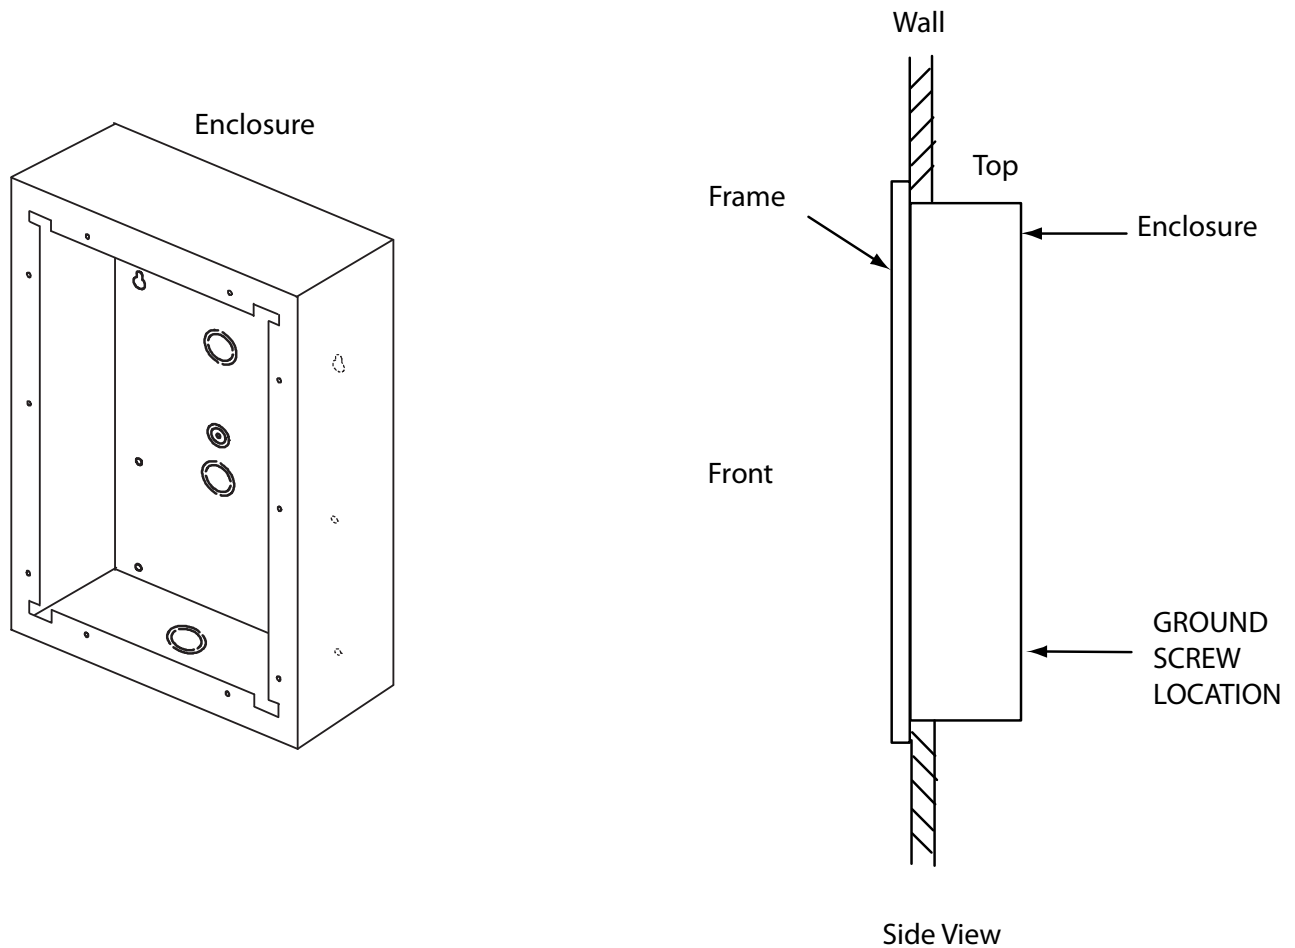

Figure 7. Flush Mount Enclosure
The flush mount enclosure mounts directly inside the wall to the wall stud or supporting structure as shown in Figure 7. Mount the enclosure flush with the wall and right-side up (the knock out is at the bottom).
4. Insert the enclosure into the wall cutout and using the side of the enclosure as a template mark the side mounting hole location as shown in the side view in Figure 7. Ensure that at least one side is beside a wall stud.
9. Insert the Touch Screen panel inside the enclosure and secure using the supplied eight screws as shown in Figure 7.